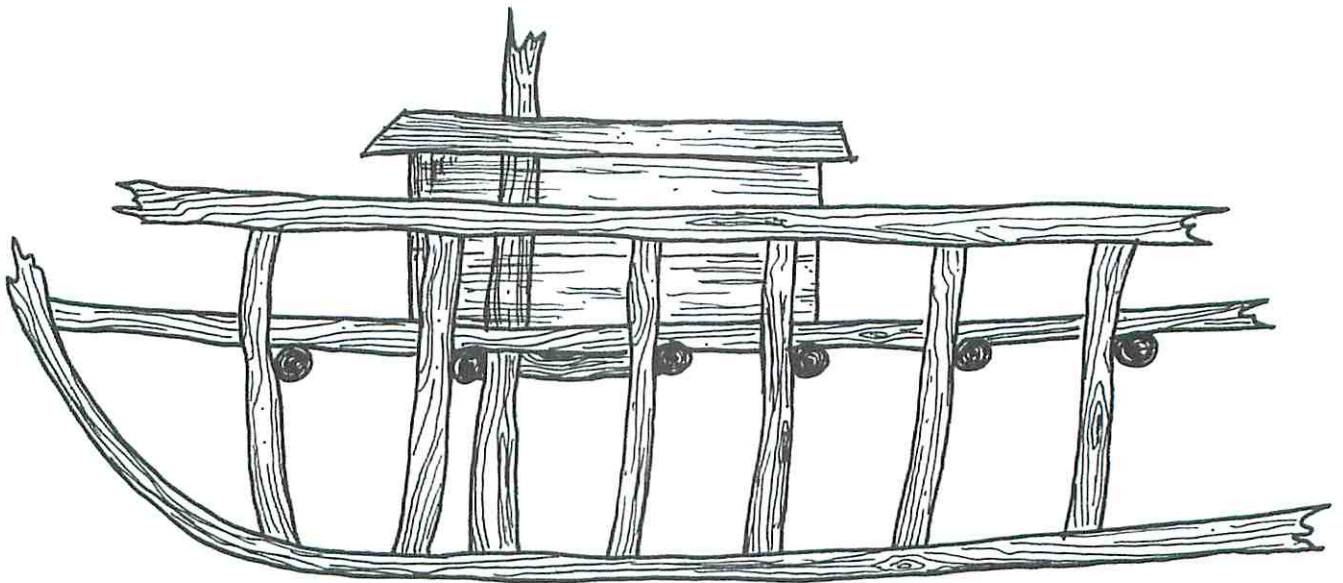

Figure 5
Find the piece you've chosen for your mast (H). It will be attached to the keel by bolting with a lag bolt from underneath. You'll also need to screw the mast to one of the deck supports. Plus, for extra stability, jam a bracer between the mast and the next deck support. See Fig. 5. Screw the bracer piece in place.